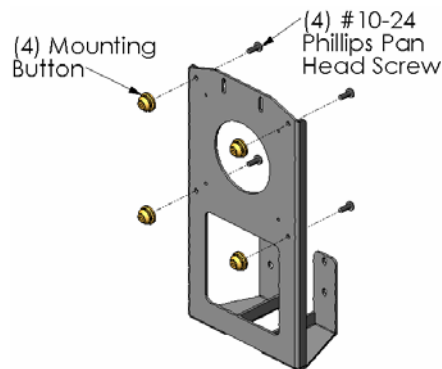
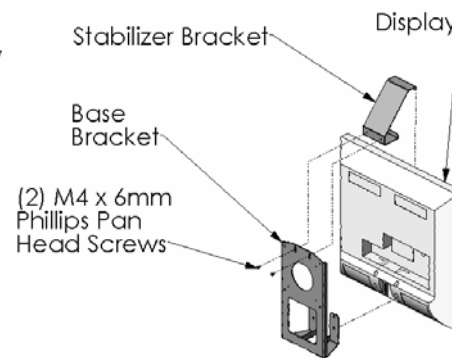

Figure 2
Figure 3
2. **Mounting Button Installation:** Install four Mounting Buttons using four #10-24 x .50" Phillips pan head screws (see Figure 2).
3. Assemble brackets and fasteners to display (see Figure 2 and Figure 3).